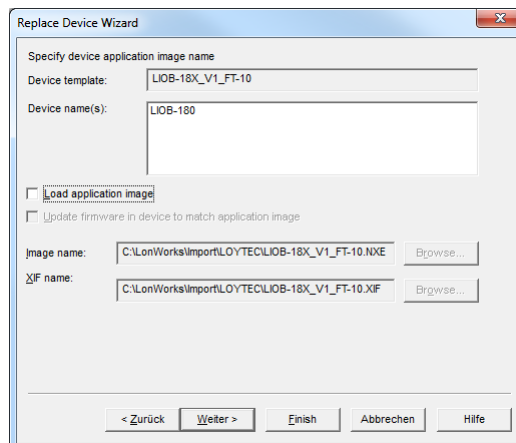

Figure 101: Click Next without loading an application image
4. In the following window shown in Figure 101 click **Next**.